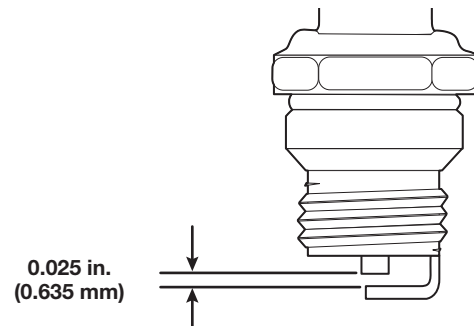

Fig. 26
6. Use a feeler gauge to set the air gap at **0.025 in. (0.635 mm)** (Fig. 26).